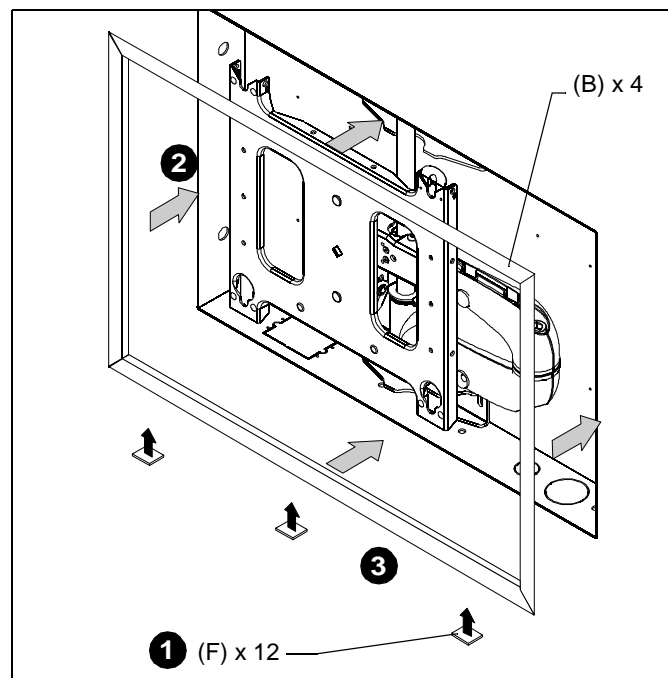

Figure 3
1. Remove paper covering adhesive and affix three tape squares (F) to inside lower flange of each trim piece (B). (See Figure 3)
2. Orient trim pieces (B). (See Figure 3)
3. Remove paper covering adhesive back from tape squares (F) on trim and press trim (B) against inner wall of box. (See Figure 3)